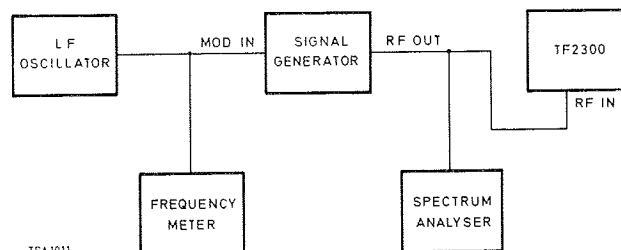

Fig. 4.3 Bessel zero measurement
- (1) Connect the signal generator, externally modulated by the l. f. oscillator, to the inputs of the modulation meter and the spectrum analyser, as shown in Fig. 4.3.